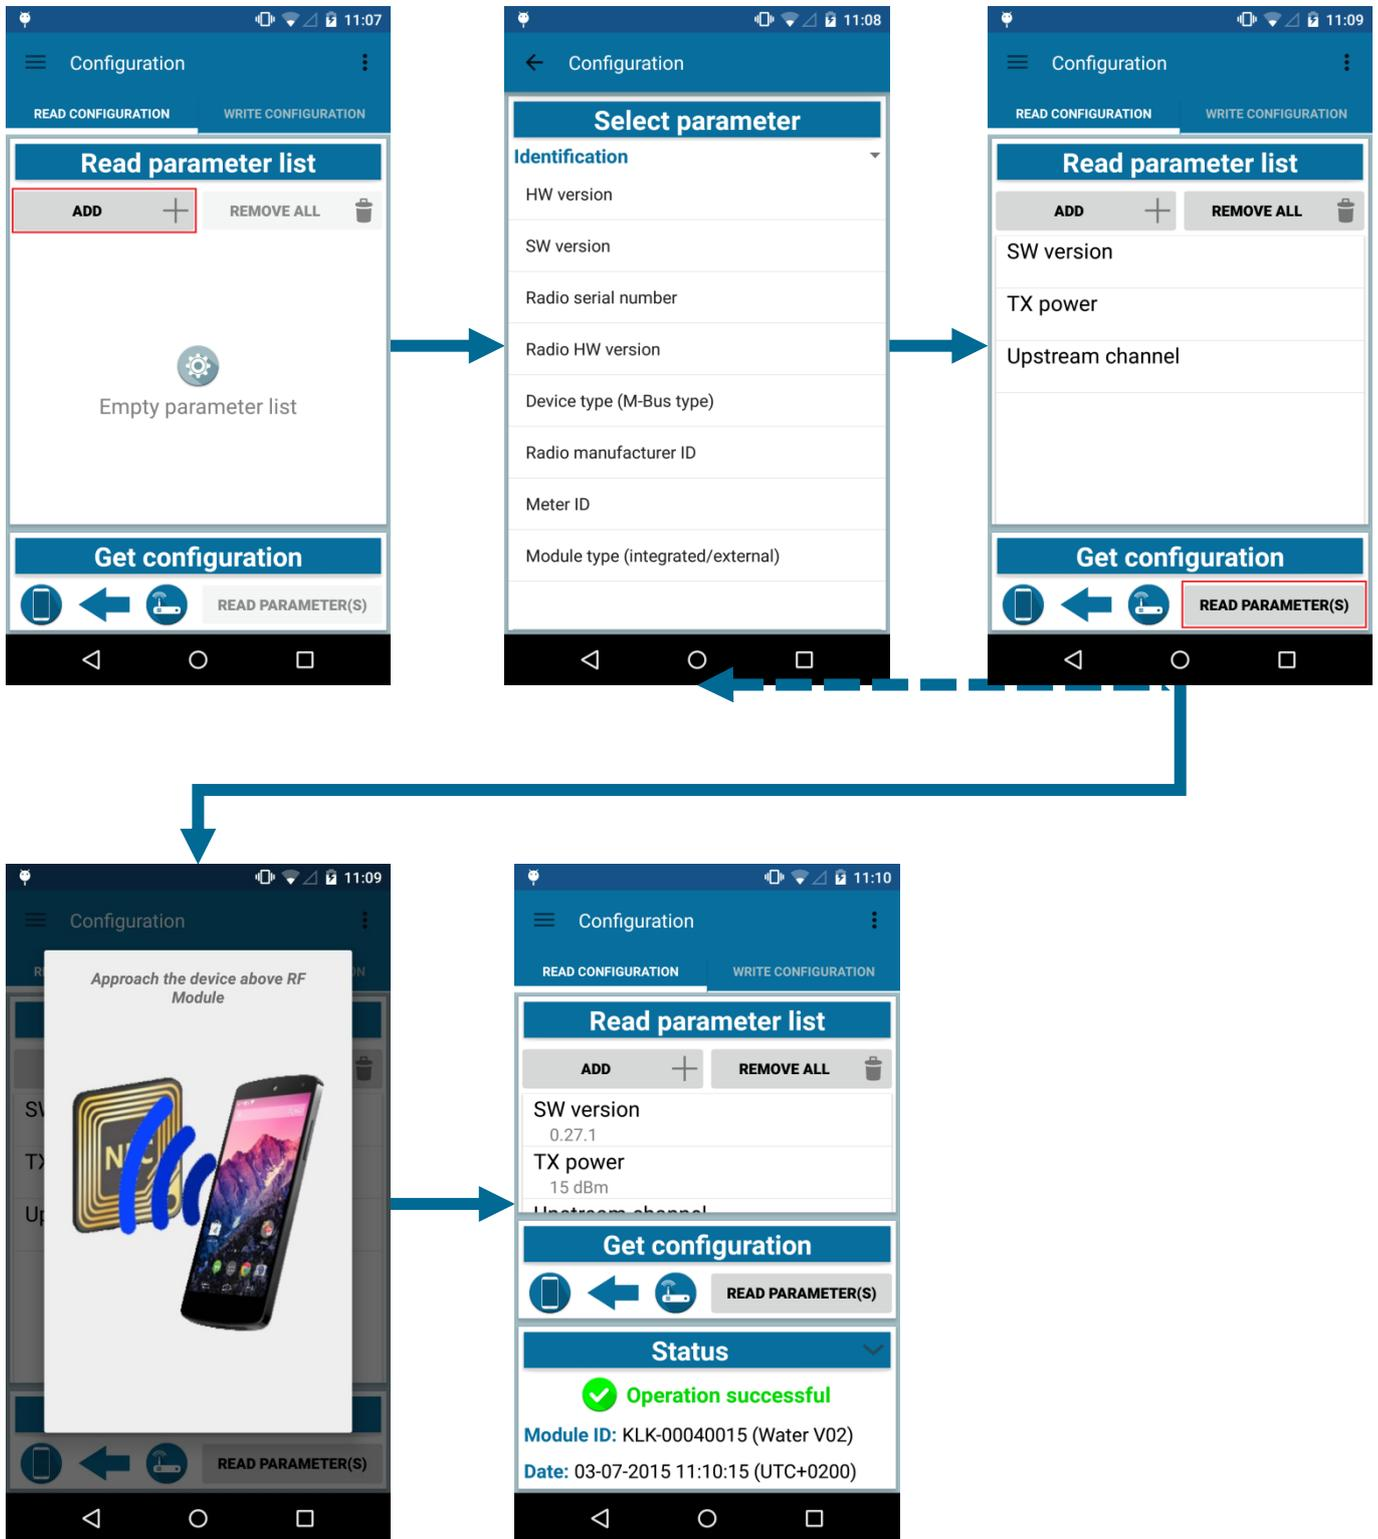

Figure 25: Read configuration operation
- Status of the operation, parameters list and values are then displayed on the screen as follows (see Figure 25).